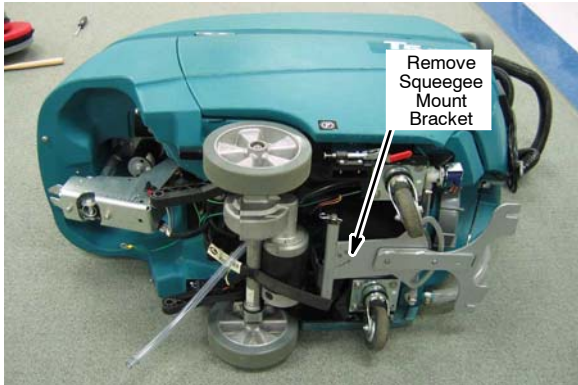

Fig. 19
1. On a level non-marring surface carefully lay the machine on its right side and remove the squeegee mount bracket (Figure 19).